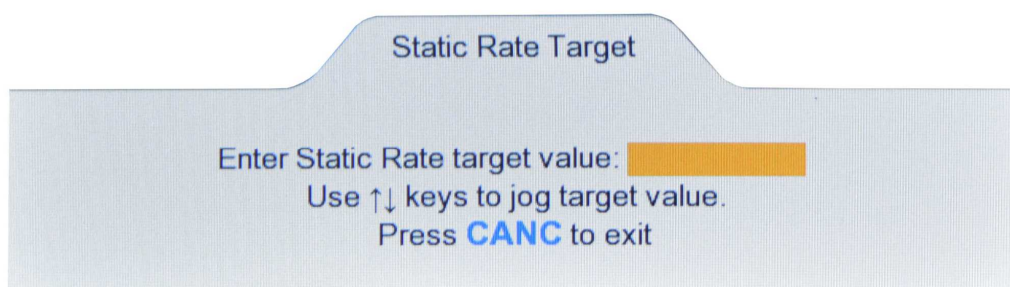

Figure 3.13 : Static Rate Target value
The Static Rate Target value can be changed only if the key# symbol (7) is displayed to the right of the Static Rate Target value field. Press key '7' on the keypad and the Lower section of the display will appear as shown in Figure 3.13 below.
Figure 3.13 above, pressing the **Up-Arrow** key will make the screen appear as shown in Figure 3.14 below.